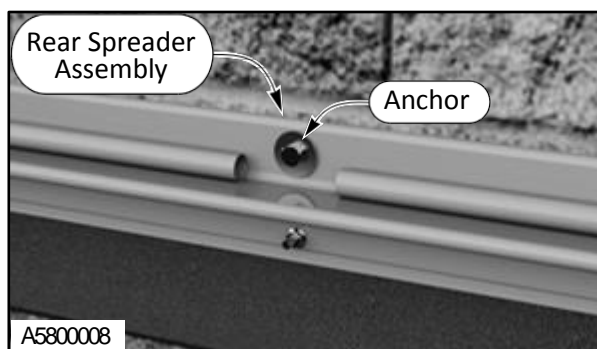

Figure 16
8. Install anchors into the rear spreader assembly. (See Figure 16 and 17)